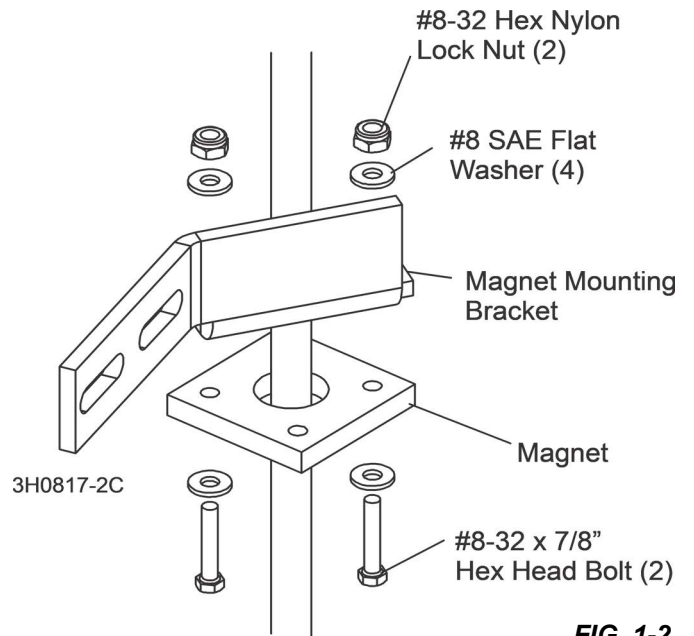

FIG. 1-2
4. Position the supplied template on the sawmill vertical mast tube 4 5/16" from the top of the tube. **See FIG. 1-2**
2. Slide the magnet assembly onto the sensor (the assembly will be secured later). **See Figure 1-2**